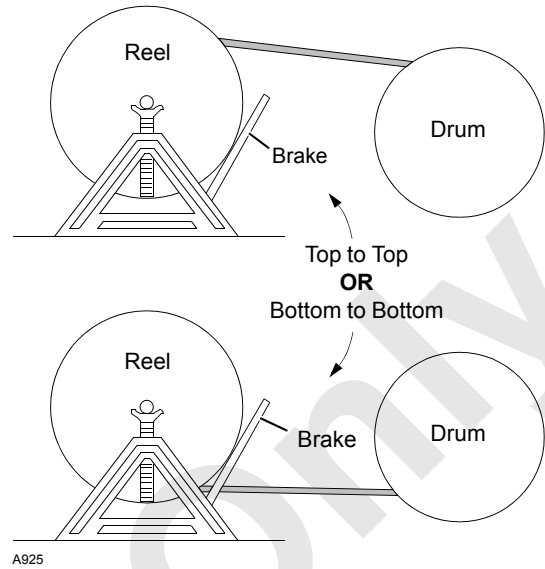

FIGURE 4-21
2. Provide a brake at shipping reel (Figure 4-21) so wire rope can be wound tightly onto drum.
3. Avoid a reverse bend when winding wire rope onto drum: wind from top of reel to top of drum or from bottom of reel to bottom of drum as shown in Figure 4-21.